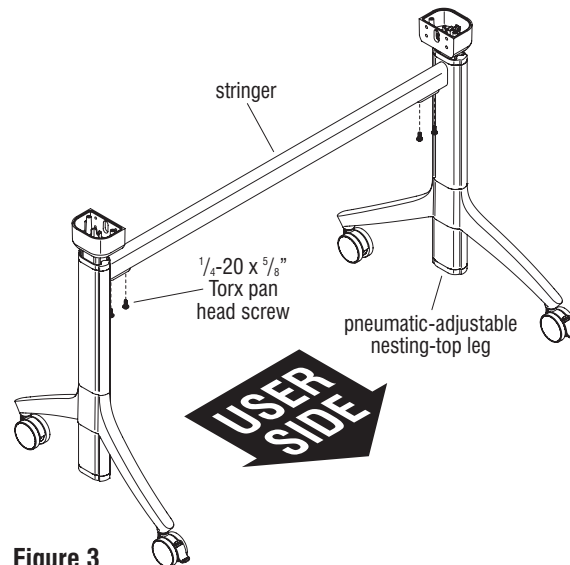

Figure 3
10. From underneath, one side at a time, align the stringer mounting holes with the stringer attachment bracket mounting holes, and loosely twist in two $1/4-20 \times 5/8$ inch Torx screws into the mounting holes. Leave a gap between the screw heads and the brace, and **do not tighten screws at this time**. Repeat the step above to loosely attach the stringer to the opposite leg's stringer attachment bracket (Figure 3 & Details C & D).